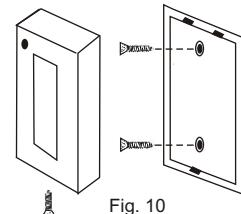

Fig. 10
3. Remove the screw from the bottom of the sensor/transmitter and separate the front cover (refer to Fig. 10).
5. Replace the front cover and secure it using the screw provided (refer to Fig.10).